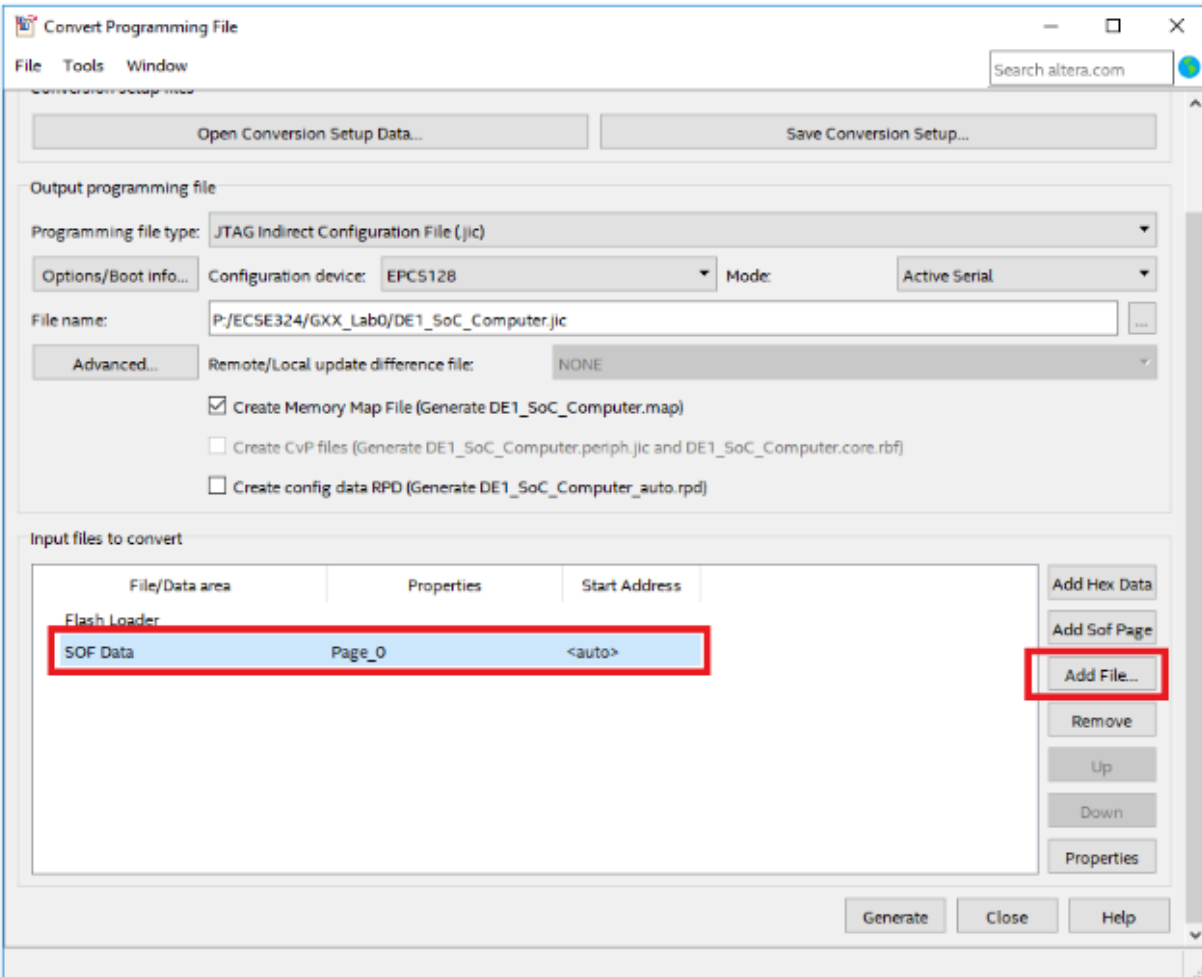

Figure 3: Convert SOF to JIC - Step 3
- Next, under “Input files to convert” click on “SOF data”, and then click “Add File” as shown in Fig. 3.